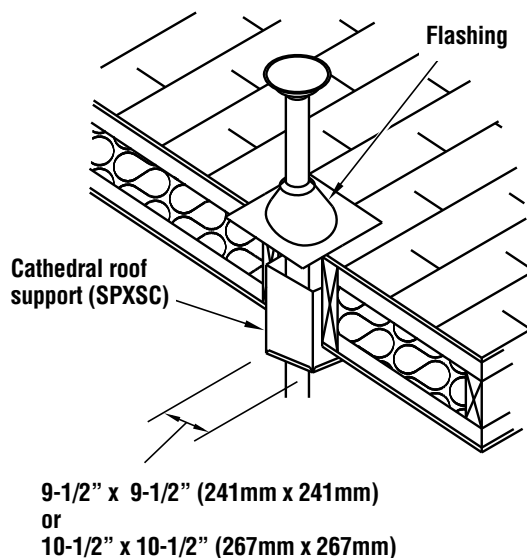

Figure 5c
- You may replace the support by the cathedral roof support if you are going through an incline roof (see figure 5c).